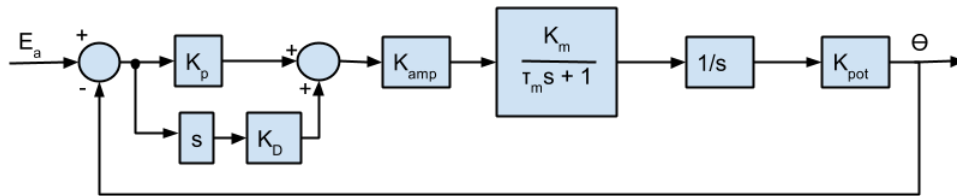
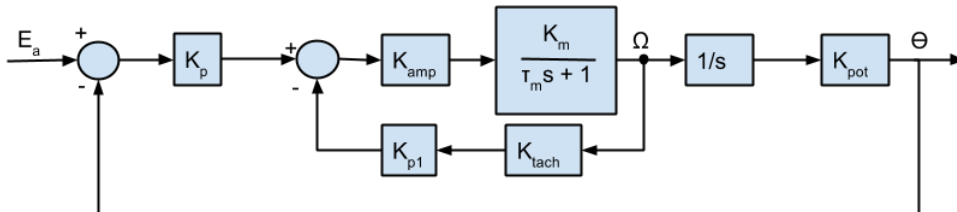

Figure 2: Proportional + Derivative Controller Block Diagram
Figure 3: Proportional + Speed Controller Block Diagram
The pre-lab uses previous lab results as well as an understanding of the proposed closed loop system. Refer to the Implementation Diagrams in: Figure 2, Figure 3 and Figure 4 for guidance. Ensure to take into account all the gains!
3. Change the controller in the previous question to a P-D as shown in Figure 2. Calculate the closed loop transfer function and choose values of K_d and K_p so as to satisfy the same design constraints as in question 2, Design 2. Hint: the closed loop transfer function's denominator that you find should simplify into the form of an ideal second order system. There will be one zero in the numerator.
4. Adjust the system to feedback the voltage from the tachometer as well as from the output potentiometer as in Figure 3. Then choose K_p and K_{p1} to satisfy the same design and the constraints from question 2, Design 2. Hint: the closed loop transfer function should simplify into the form of an ideal second order system.